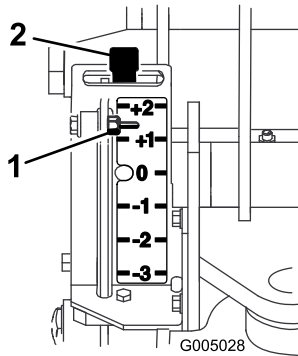
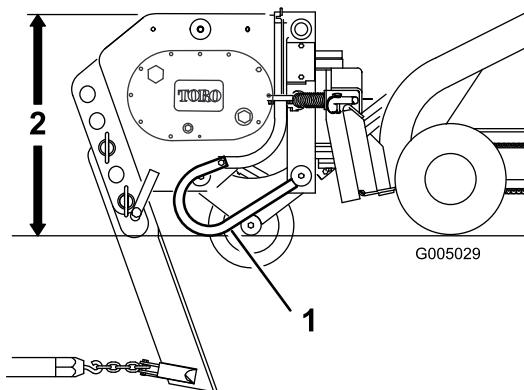

Figure 7
Figure 8
5. Tilt the attachment plate completely back so that the top of the plow is parallel to the ground (Figure 8).
to the ground (Figure 8). When you lift the plow, the indicator on the gauge moves down. Marks on the gauge show the number of inches lower or higher than the maximum depth that you are plowing (Figure 7). The gauge reads from +2 to -3. The +2 on the gauge represents a 5.0 cm (2 inch) depth below the bare surface and the -3 on the gauge represents a 7.6 cm (3 inch) above the bare surface. The 0 on the gauge indicates that no offset is applied to the blade depth.